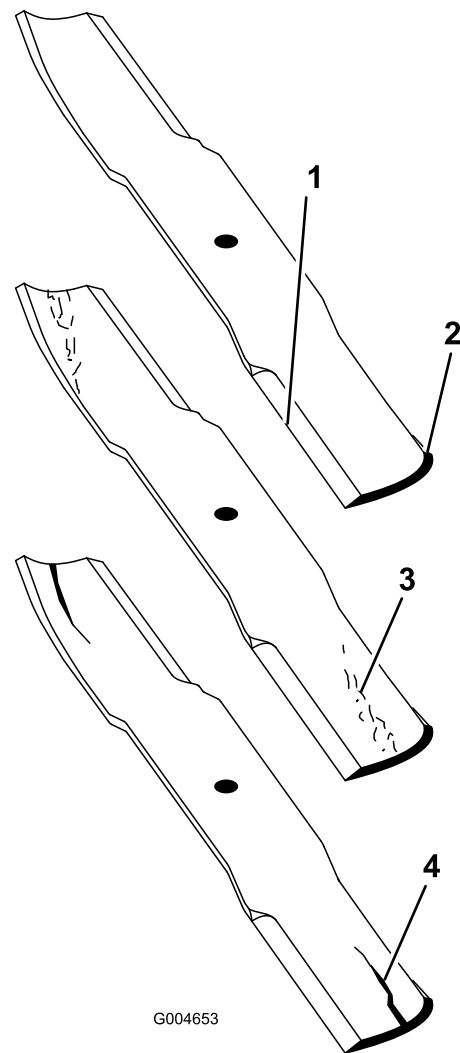

Figure 85
2. Examine the cutting ends of the blade carefully, especially where the flat and curved parts of the blade meet (Figure 85).
Note: Because sand and abrasive material can wear away the metal that connects the flat and curved parts of the blade, check the blade before using the machine. If you notice wear, (Figure 85), replace the blade.